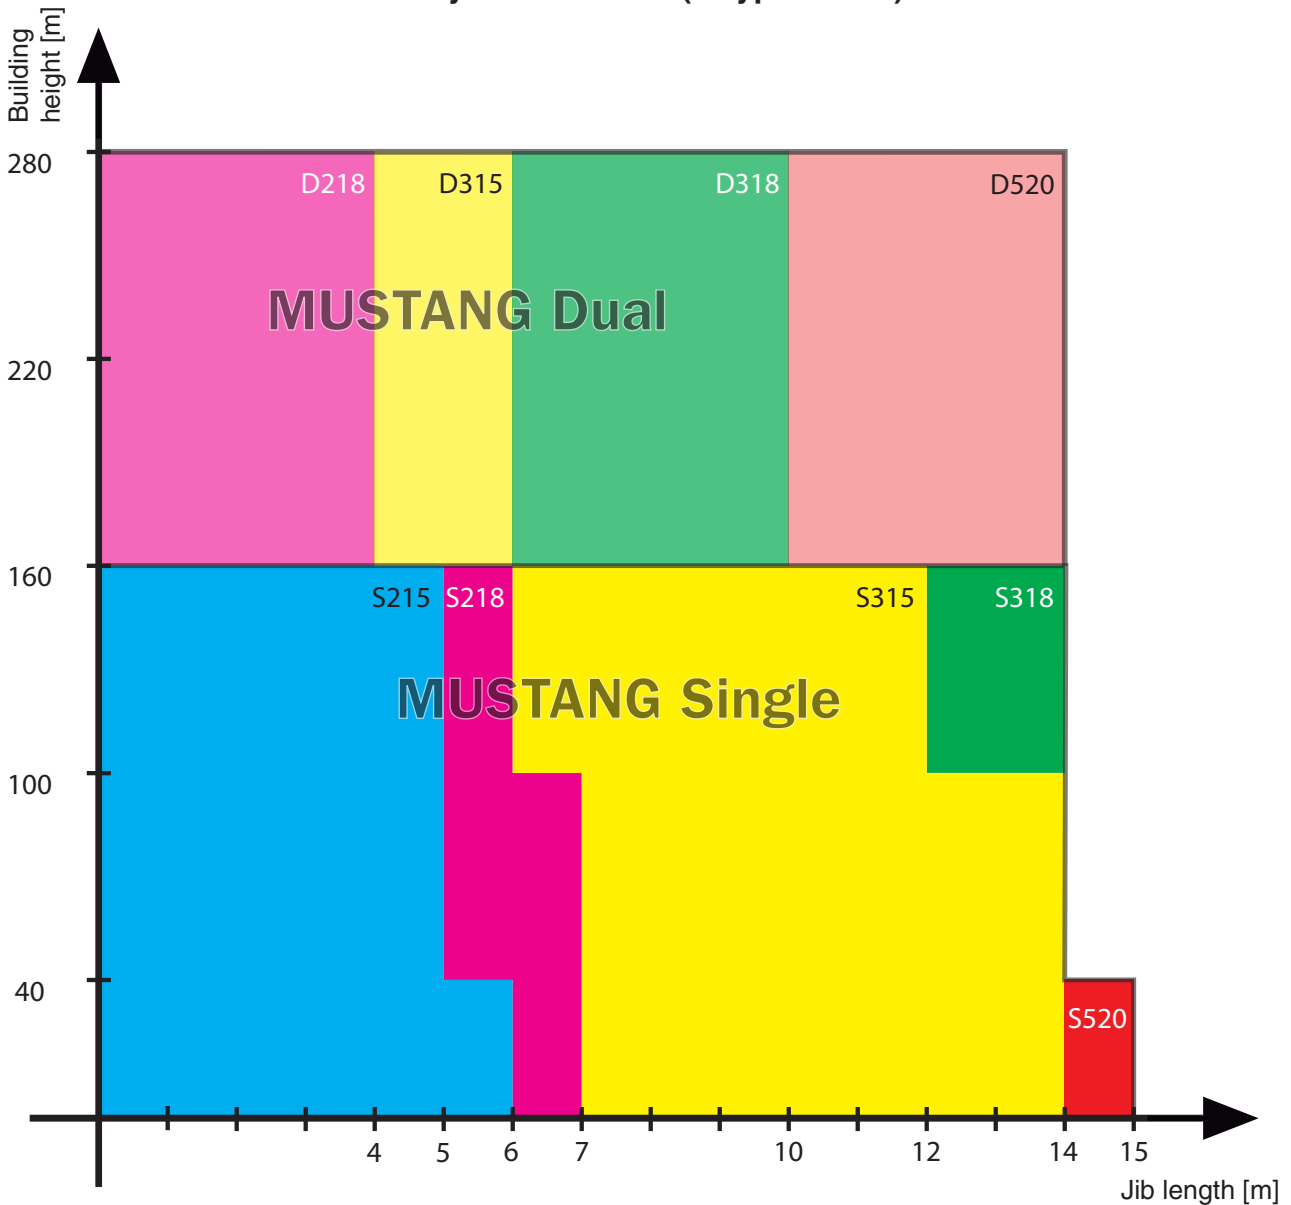

Fig. 2. - MUSTANG - Standard range
*) depending on jib length (see Fig. 2).